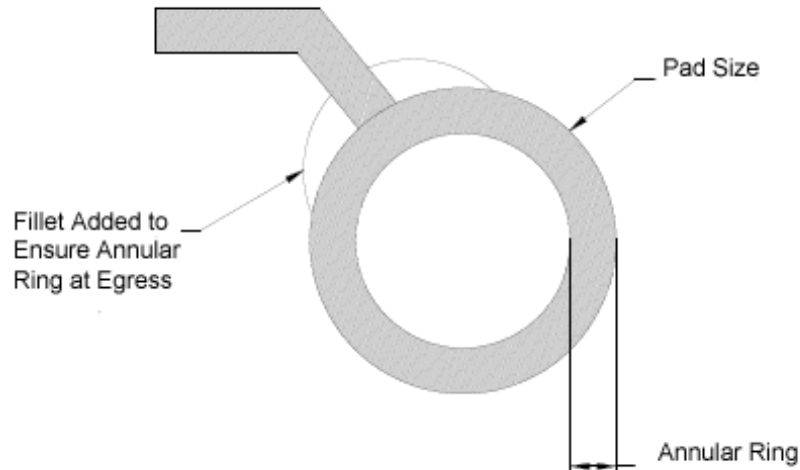

Figure 6: Preferred Fillet
5.4.2 Backdrilling is allowed in the “non critical zone” only. Backdrilling will be required for most high-speed applications on the backplane. The bottom of Figure 6 shows a non-backdrilled via to the left and a backdrilled via in the middle. The dual diameter via on the right is sometime used to reduce noise but is not very common. Removing a portion of the via barrel lowers via capacitance, improves noise characteristics and significantly improves the performance of the connector launch. Note that the pin is inserted after backdrilling so it doesn’t matter how close you drill to the pin. The length of the pin determines the minimum stub length achievable, in this case 90 mils (2.28mm). It is important to discuss backdrilling with the specific board fabrication vendor to understand their tolerancing requirements and limitations.